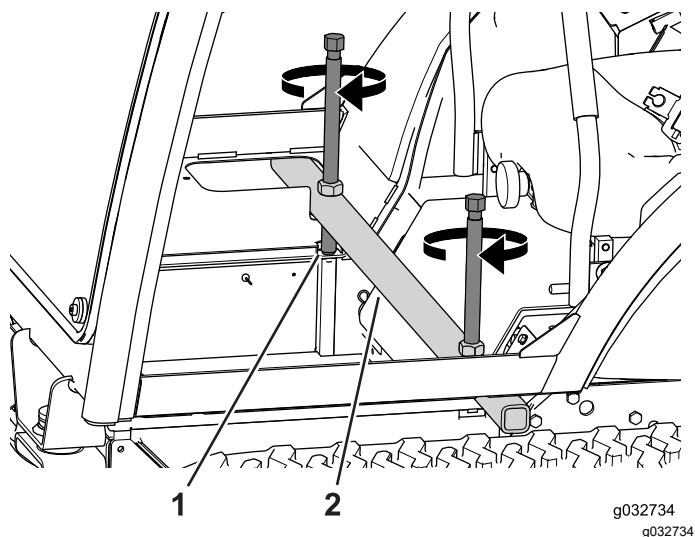

Figure 113
3. Position the lift bar across the cab frame (Figure 113).
4. Alternate between turning the lift screws, a few turns at a time until the cab pivots forward (Figure 113).